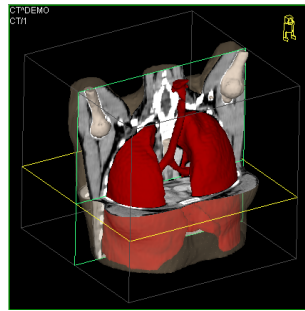

Figure 280 – 3D view
- To display ROIs in 3D view (see Figure 280), click the **3D** button.